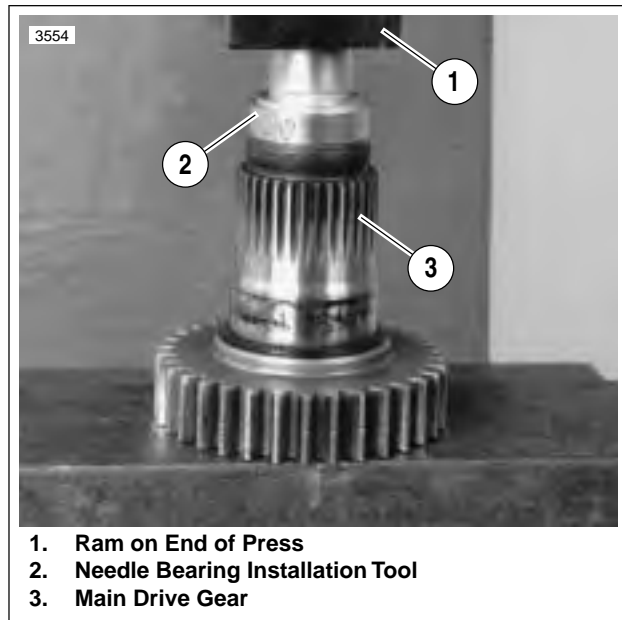

Figure 6-48. Needle Bearing Installation Tool
- See Figure 6-48. Use INNER/OUTER MAIN DRIVE GEAR NEEDLE BEARING INSTALLATION TOOL (Part No. HD-37842-A) for assembly. Select which end of tool to use.